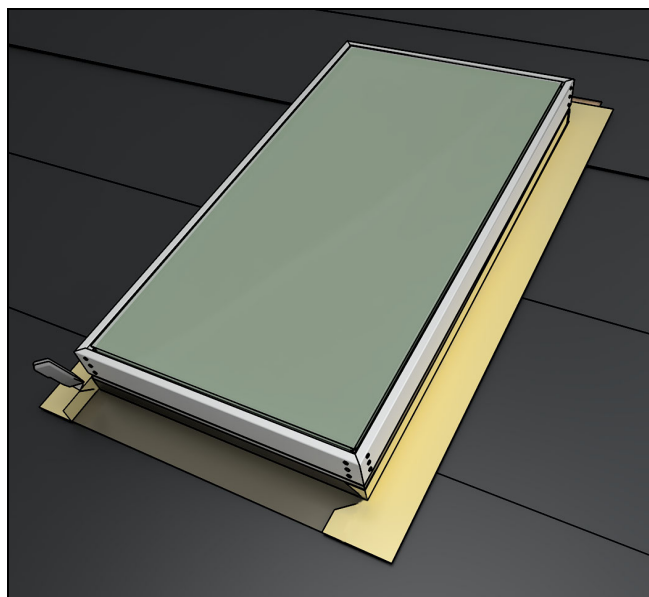

Figure 13
11. Wrap the jambs with adhesive flexible flashing and create water-shedding laps over roofing underlayment. See Figure 13.